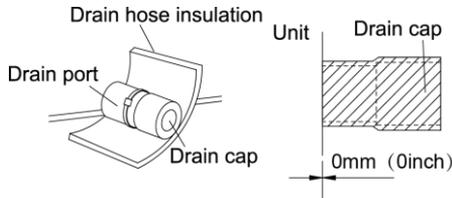

Fig. 4.27
- (10) The unused drain port also should be insulated properly (Fig. 4.27).